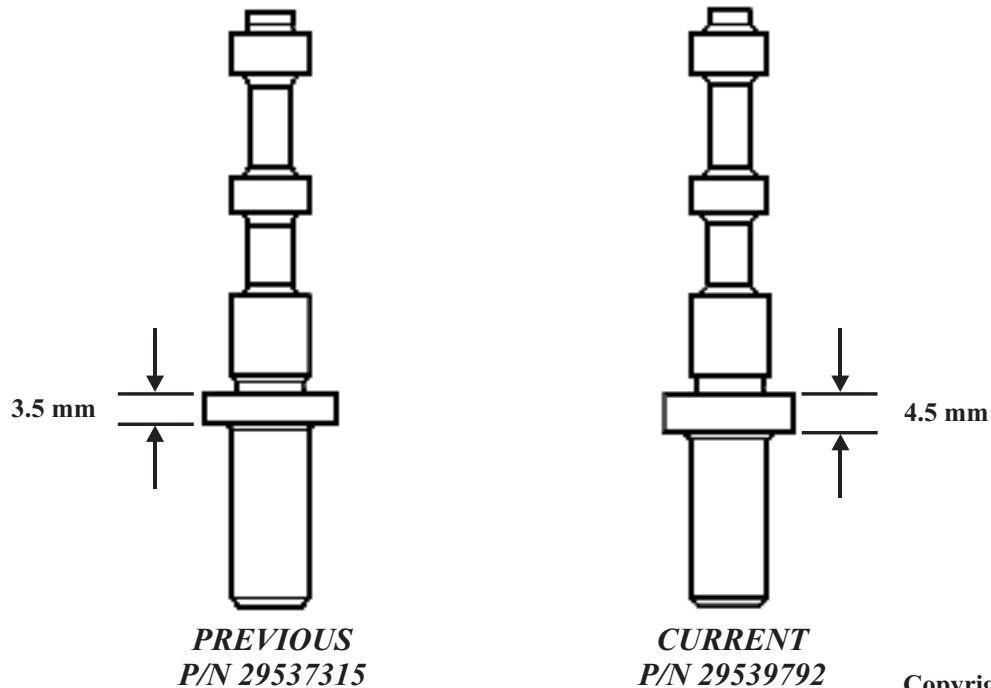

Figure 5
- (3)The Control Main Regulator Valve has changed, (See Figure 5).